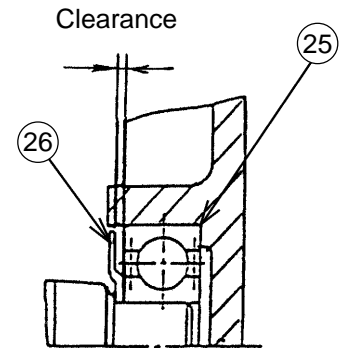

Fig. 17
When replacing the Ball Bearing 608VVC2PS2L [25] only, ensure that Washer (A) [26] is reassembled in the proper direction and there is a clearance between the Ball Bearing 608VVC2PS2L [25] and Washer (A) [26]. (Fig. 17)